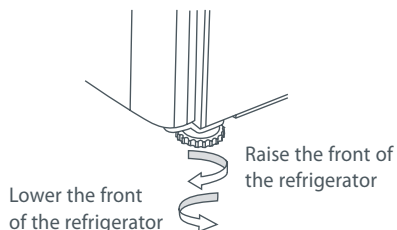

Fig.11 Refrigerator feet
- C Adjust the front feet down until the refrigerator is leaning backward with the front approximately 10 mm (½") higher than the back. This will ensure a good door closing action. (Refer to Fig.11).